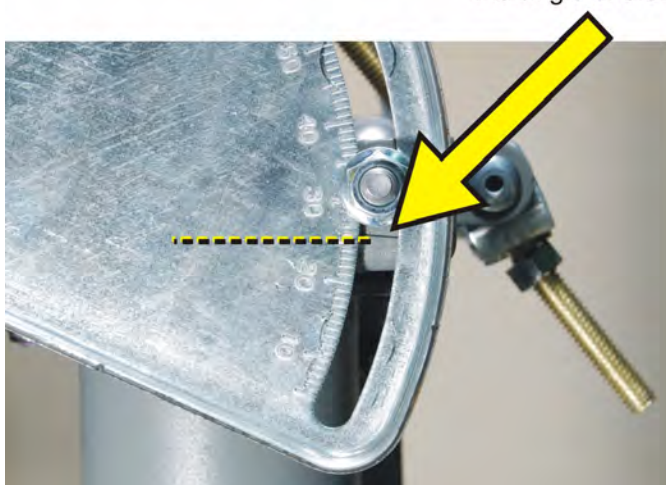

Figure 33: Elevation marker
3. Use the lower nut to adjust the elevation. As shown in Figure 33, the black line on the bar behind the lockdown nut acts as a pointer to indicate the value in the elevation scale. For example, the antenna shown in the figure is adjusted to 26°.